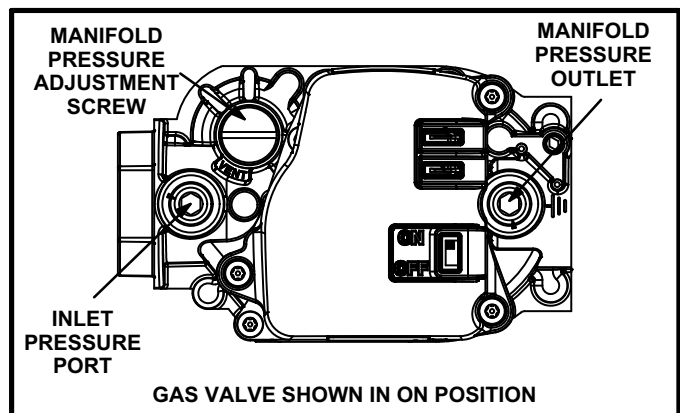

FIGURE 59
### Gas Valve Operation (Figure 59)
- 6 - Move gas valve switch to **OFF**. See figure 59.
- 8 - Move gas valve switch to **ON**. See figure 59.
When testing supply gas pressure, use the 1/8” N.P.T. plugged tap or pressure post located on the gas valve to facilitate test gauge connection. See figure 59. Check gas line pressure with unit firing at maximum rate. Low pressure may result in erratic operation or underfire. High pressure can result in permanent damage to gas valve or overfire.